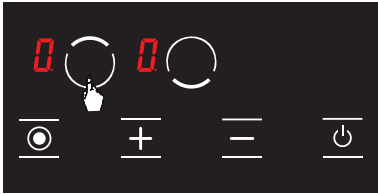

Figure 15
2. Press the upper hob selection key (●) again. (See Fig. 15)